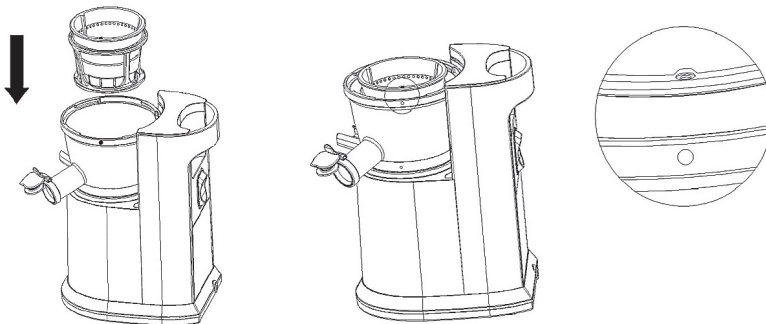

Fig. 2
2. Assemble the Strainer and Rotating Basket to the bowl. (Figure 2)